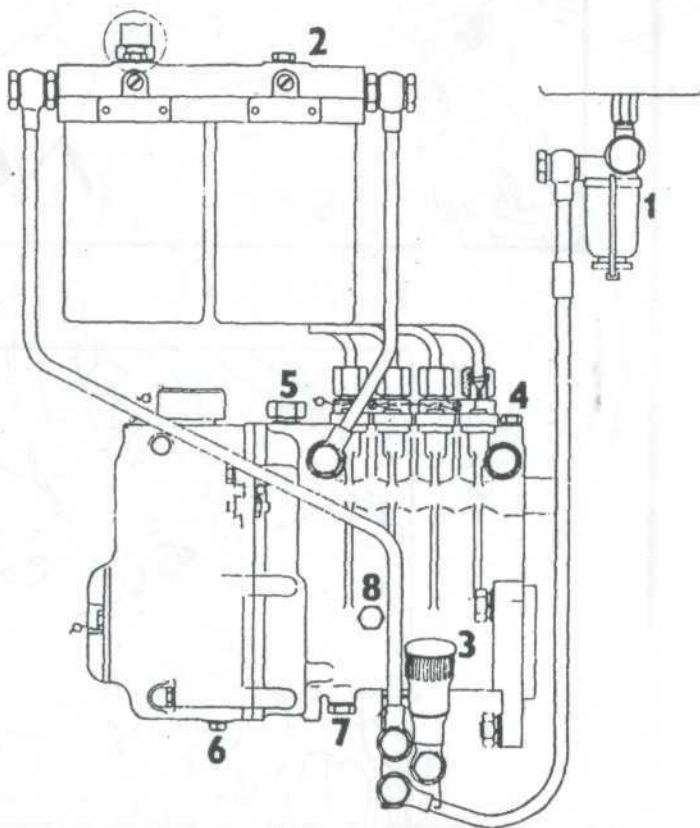

Fig. 18
Bleeding the Fuel System (Fig. 18)
1. Open the fuel tank tap to fill up the precleaner glass tank (Fig. 18/1) with fuel without any air bubbles.
2. Loosen fuel cleaner screw (Fig. 18/2) and operate manually the fuel delivery pump (Fig. 18/3) until fuel free from air bubbles flows out of either cleaner. Tighten the cleaner screw and keep on pumping manually for some time.
3. Loosen the bleeding screw (Fig. 18/4) on the fuel injection pump and pump manually until fuel escapes around screws without air bubbles. Keep on pumping and tighten gradually the bleeding screw of the fuel injection pump. After bleeding has finished, clean the engine from fuel.